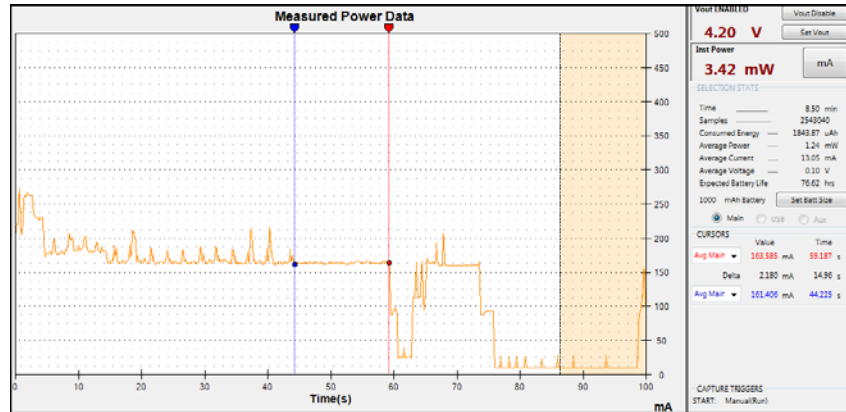

Figure 22 Selection Stats
1. Drag the red and blue arrows (indicator) to the desired position on the power monitor output data plot, as shown in Figure 22 below.